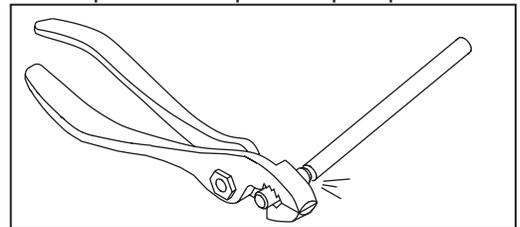

Figure 3: Breaking the Trip Rod
Note: If trip rod length is excessive, loosen the locking screw and remove the trip rod from the trip lever. Using pliers, break off the one (1) inch long notched section (see Fig. 3). Reinstall trip rod and repeat Step 11 procedure.
Note: If trip rod length is excessive, loosen the locking screw and remove the trip rod from the trip lever. Using pliers, break off the one (1) inch long notched section (see Fig. 3). Reinstall trip rod and repeat Step 7.